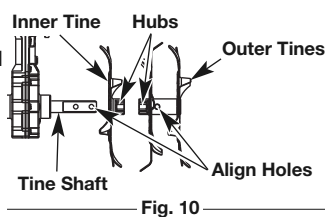

Fig. 10
5. Slide on the new tines with the hubs facing each other (Fig. 10).
**NOTE:** Make sure the single tine goes on the tine shaft first with the double tines on the outside and holes on the outer tines are aligned with the outer hole on the shaft (Fig. 10).